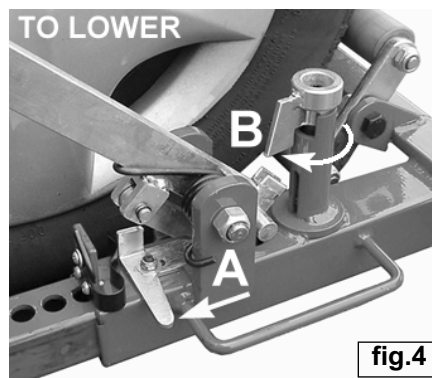

fig.4
3.6.1. Disengage the ratchet by turning the the ratchet lever to the left. See fig.4 - A(TO LOWER)
3.6.2. Turn the locking pin tab clockwise in its slot so that it is in line with the small 'U' shaped channel at the bottom of the foot pedal lever. See fig.4 - B. (TO LOWER)